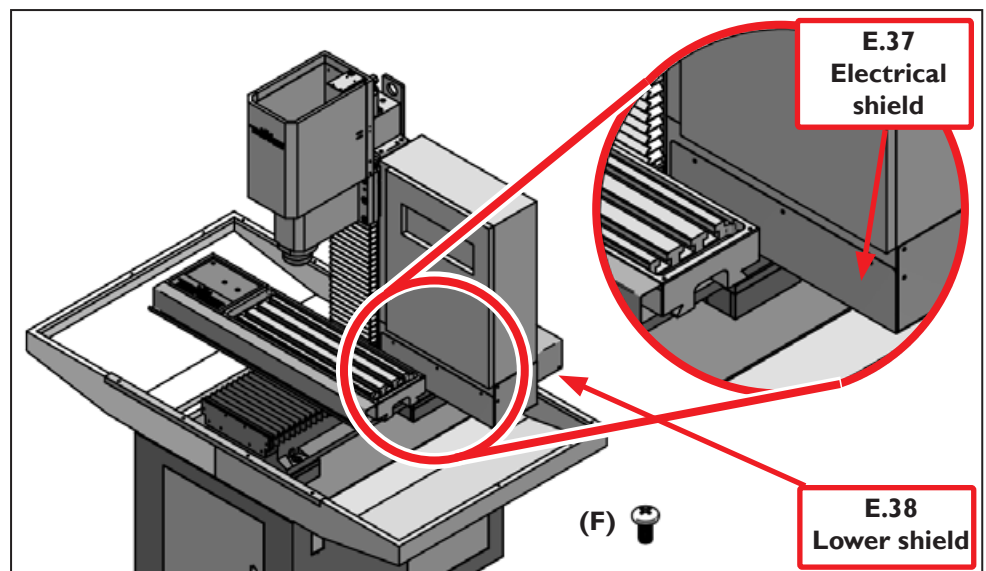

Figure 2
3. Place the Electrical Shield (E.37) around the right corner of the mill (see **Figure 2**).
4. Using six F screws, attach the Lower Shield (E.38) to the bottom of the Electrical Shield (E.37) as shown in **Figure 2**.
5. Next, mark, drill, and tap; use #21 Drill and 10-32 tap to make five holes on the side of the electrical cabinet where the existing holes are located in the Electrical Shield (E.37) as seen in **Figure 2**.
6. Once holes are drilled and tapped, secure Electrical Shield into place using five (F) screws as seen in **Figure 2**.